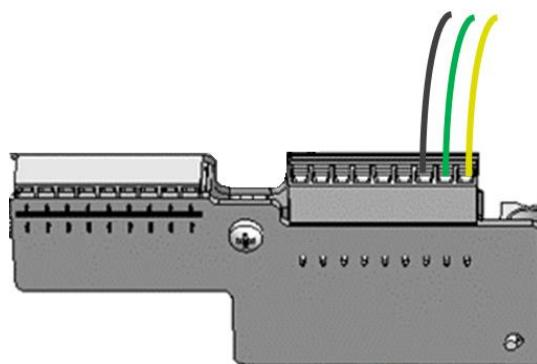

Figure 5: Inserting the 9-Pin Connector into the Surge Protection Board
5. Insert the 9-pin connector with the RS485 wires into the communication input socket of the surge protection board, as shown in Figure 5.